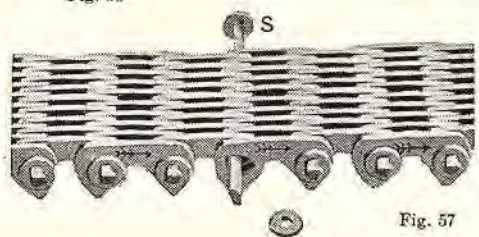

Fig. 57
Bring the ends of the chain together and lap the link plates in regular order, as shown in Fig. 57; insert "seat pin" (S) (with washer riveted on one end) from the far side of the chain, taking care that the ribbed side of the pin points in the direction of rotation of the chain as shown in Fig. 57.
Insert "rocker pin" (R) from the near side of the chain as shown by Fig. 57, with the segmental, or pointed, side of the pin against the flat side of the "seat pin," and toward the direction of rotation of the chain. The relative positions of the two pins, when properly inserted, will be as shown by Fig. 63.